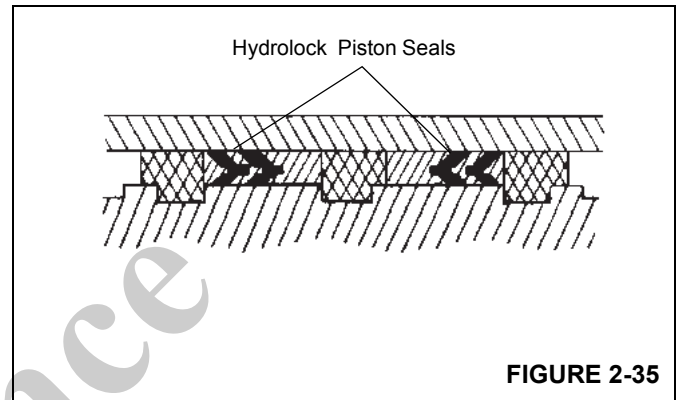

FIGURE 2-35
19. Install the hydrolock seals and wear rings onto the piston (Figure 2-35).